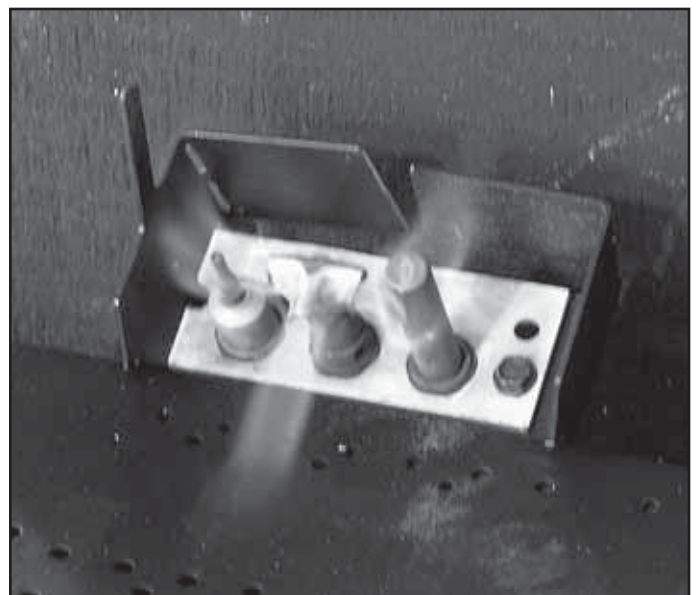

Figure 3.1 Standing Pilot Flame Patterns
- Inspect pilot flame pattern and strength. See Figure 3.1 for proper pilot flame pattern. Clean or replace orifice spud as necessary.